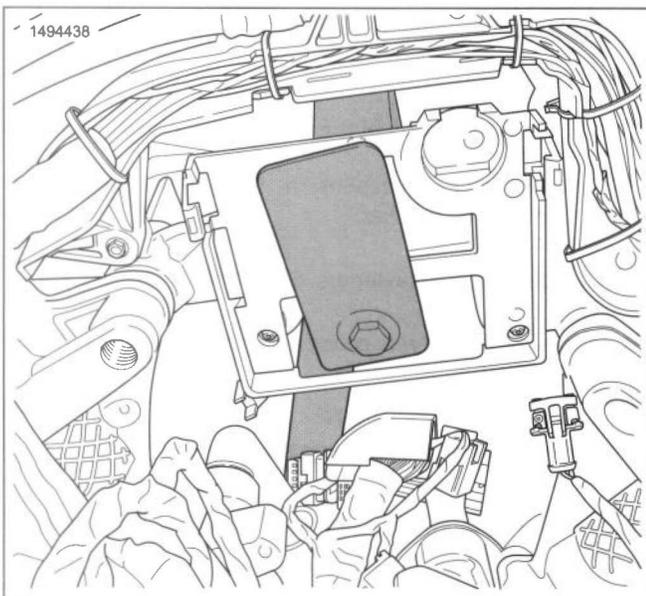

Figure 4-82. Powertrain Fixture Installed (inboard side)
- b. See Figure 4-82. Install plate from inboard side of frame.